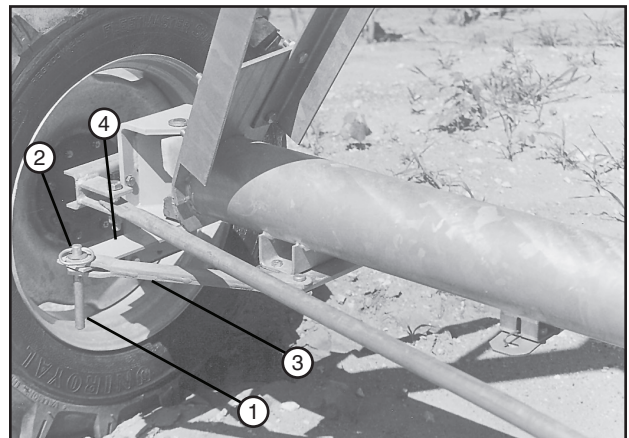

Figure 51-2 1. Lynch Pin
10. Remove lynch pin from each torque pin, then remove each torque pin and disconnect the tow link bars from the gearbox mount steering arms. Install each torque pin back in the steering arm hole and secure with lynch pin. See figure 51-2.